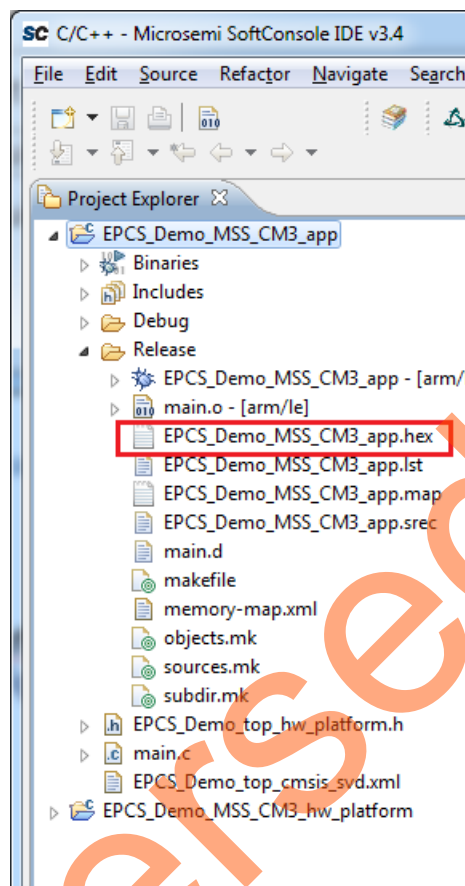

Figure 59 • Generated Hex File
12. SoftConsole creates a hex file in the **Release** folder under the **EPCS_Demo_MSS_CM3_app** project, as shown in Figure 59.